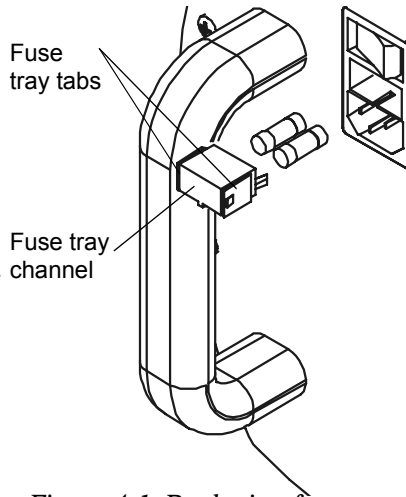

Figure 4-1 Replacing fuses
3. Depress fuse tray tabs and pull tray from fixture as shown in Figure 4-1.